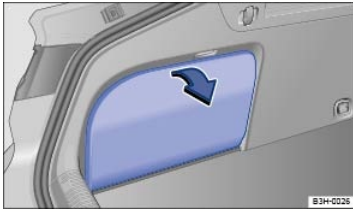

Fig. 152 In the luggage compartment: Side storage compartment with cover.
- To *open* the storage compartment, pull the cover in the direction of the arrow ⇒ Fig. 152.